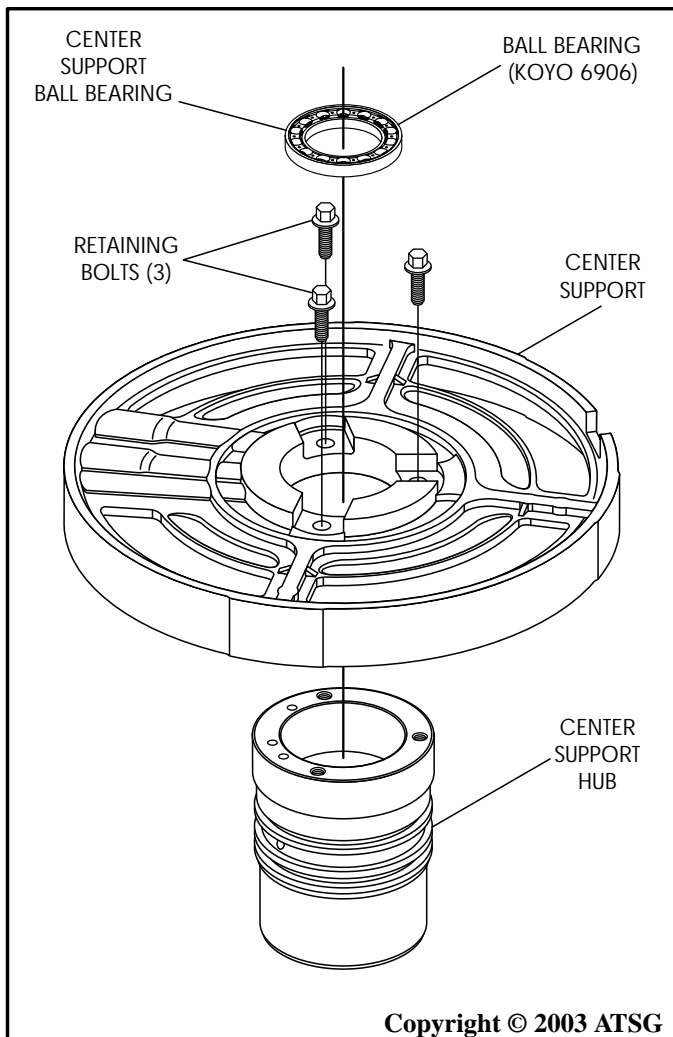

Figure 133
5. It is not necessary to remove the center support from the hub, but if you did, assemble the hub to support as shown in Figure 133, and torque the retaining bolts to 9 - 14 N·m (80-100 in.lb.).
6. The ball bearing in the center support is not serviced by Ford, but is available from your local bearing supply house using the number supplied in Figure 133.
7. Install a new ball bearing into center support, as shown in Figure 133, using proper bearing drivers.